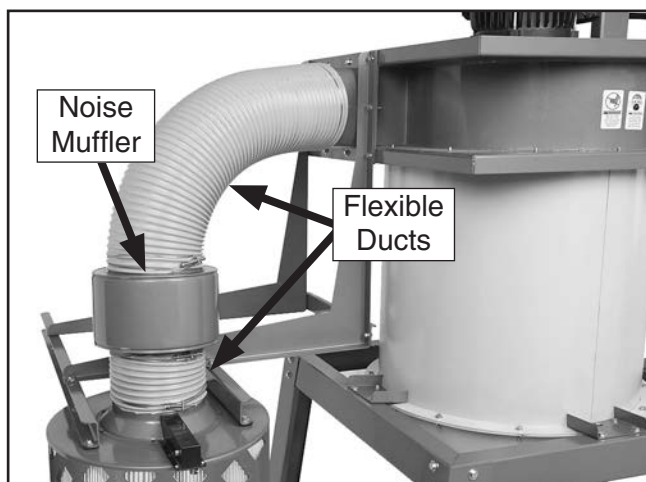

Figure 35. Ducting and noise muffler connected between blower housing and filter canister.
36. Assemble the 8" x 31½" flexible ducts, the noise mufflers, and the 8" x 4¾" flexible ducts with the 8" duct clamps (see **Figure 35**).